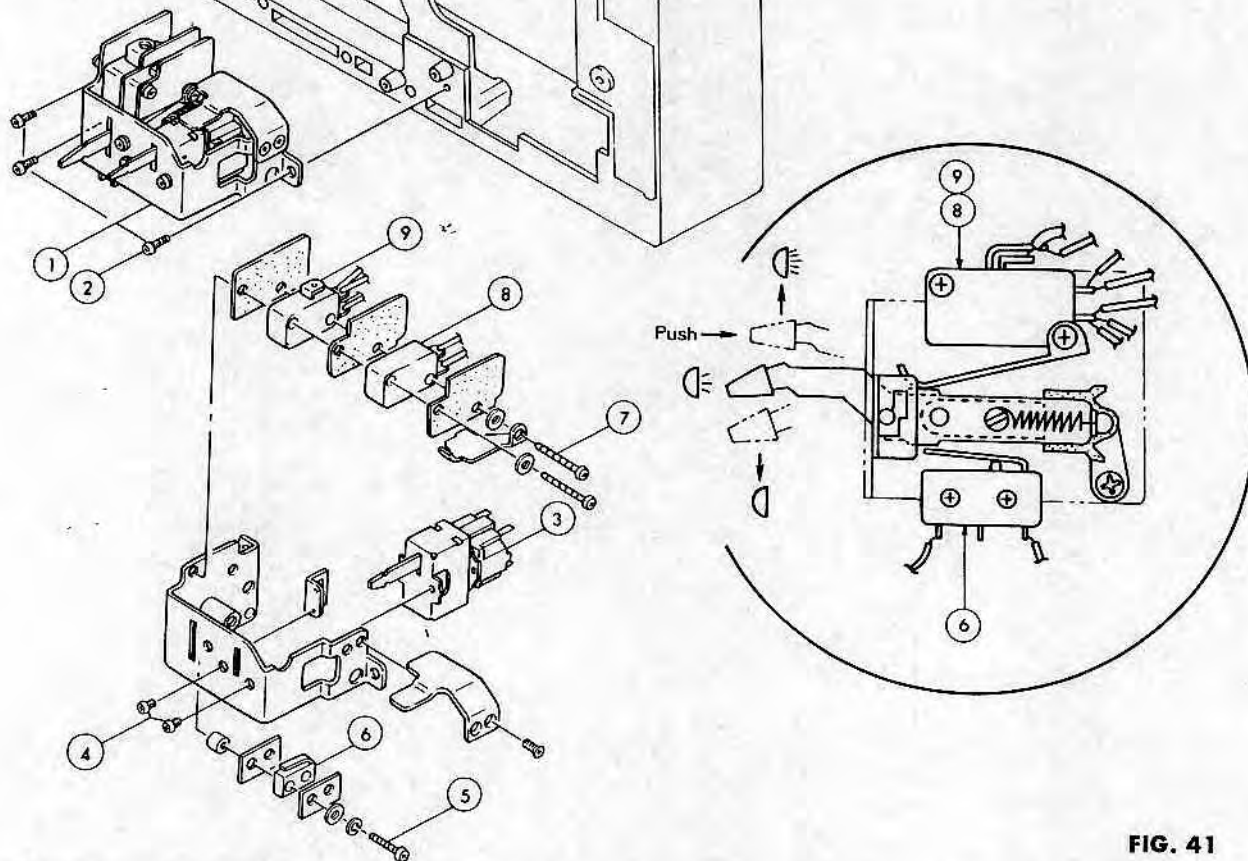

FIG. 41
TROUBLESHOOTING: (Refer to Fig. 41)
1. Unscrew the (2)x3 and remove the (1) with wires.
2. For further disassembly, refer to Fig. 41.